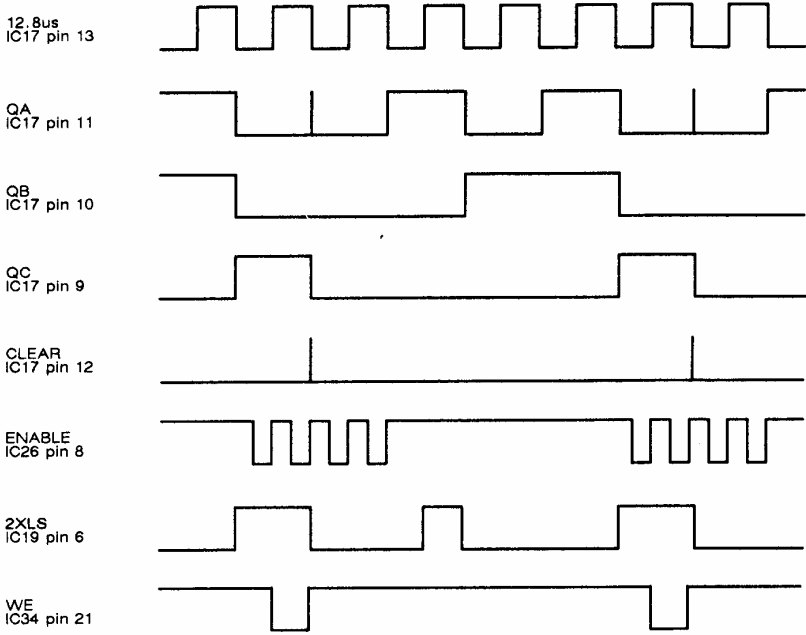

Fig. 5-3-3 Rows counters timing waveform diagram for AB3/2
- (2) Check the operation of the rows counters and associated circuits by reference to the timing diagram shown in Fig. 5-3-3.